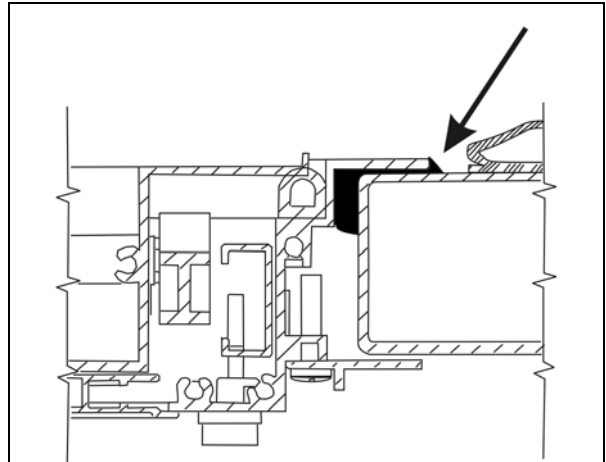

FIGURE 72 : SMOOTH DOWN THE JOINT
10. Open the awning window manually and smooth down the joint (FIGURE 72) and remove glue in excess with Sika 208;